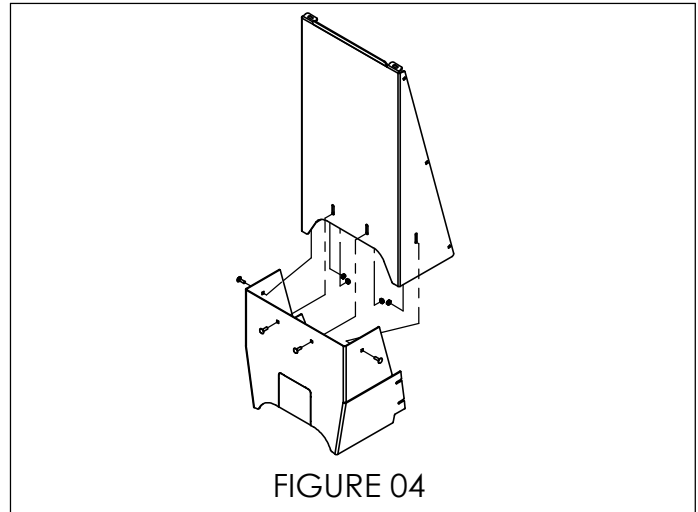

FIGURE 04
11. LOOSELY ATTACH THE CENTER EXTENSION TO THE RECESSED PANEL, AS SHOWN IN FIGURE 04, AND FASTEN TO THE MAIN ASSEMBLY USING #10-32 CARRIAGE BOLTS AND KEEPER NUTS.